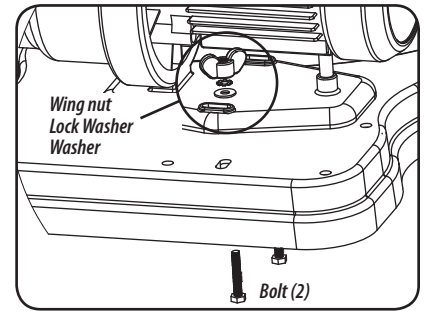

Figure 1
1. Secure the water pump to the base plate with the provided pump mounting hardware. See Figure 1.